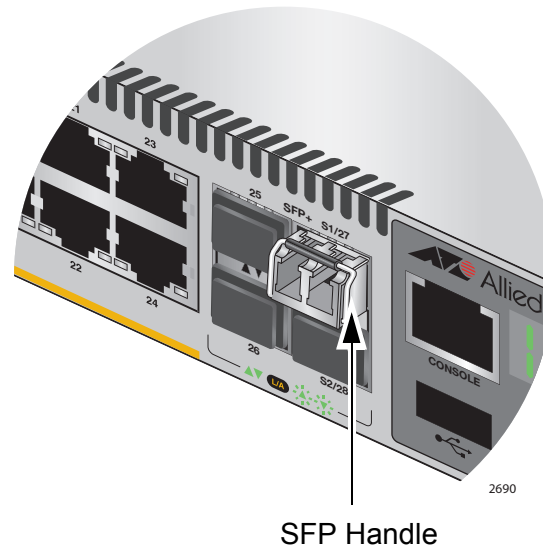

Figure 58. Positioning the Handle in the Upright Position
- Verify the position of the handle on the transceiver. If the transceiver is in the S1 slot, the handle should be in the upright position, as shown in Figure 58. If the transceiver is in the S2 slot, the handle should be in the down position.